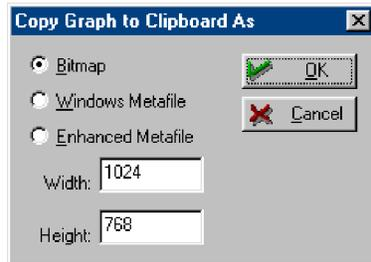

Figure 8.30 *Copy Graph to Clipboard As dialog box*
- 2 In the **Copy Graph to Clipboard As** dialog box (Figure 8.30), select the file format in which to save the graph: